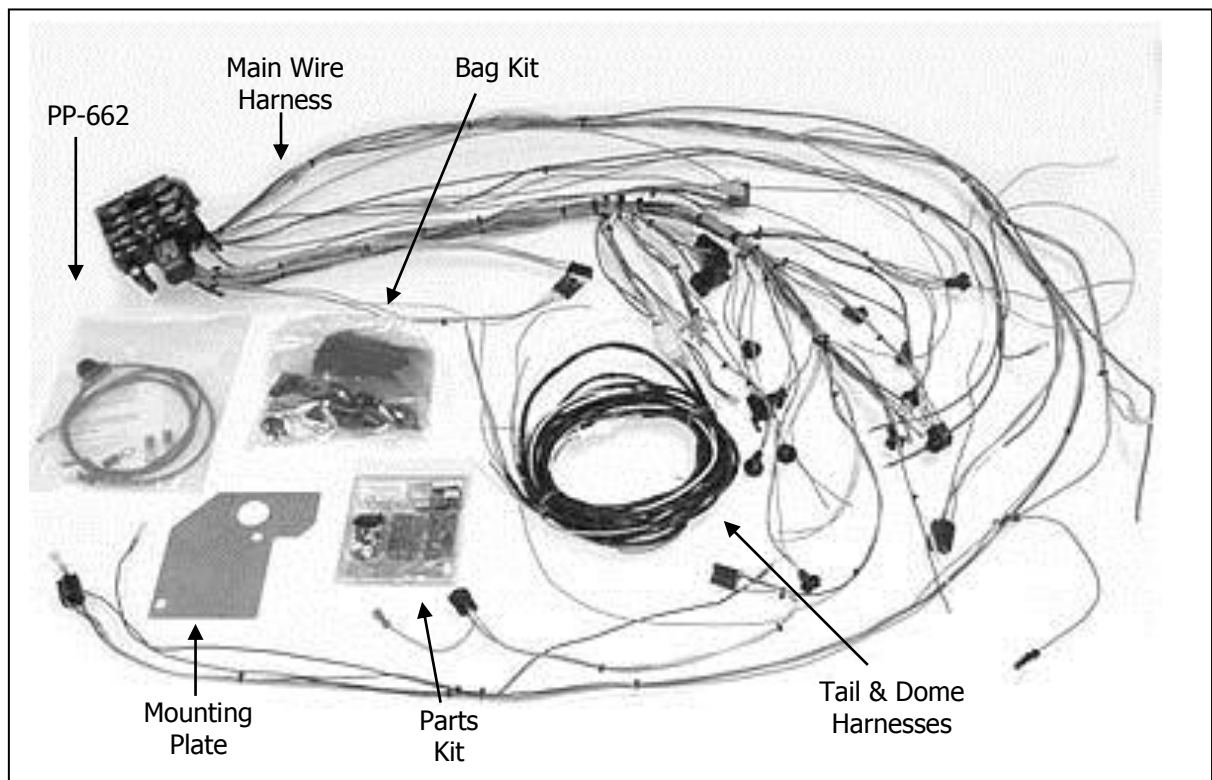

Figure 3.1 The Painless Performance Wire Harness Kit (Part #20110)
Refer to **Figure 3.1** to take inventory. See that you have all the parts you are suppose to have in this kit. If anything is missing, contact the dealer where you obtained the kit or Perfect Performance Products, L.L.C. at (817) 244-6898. This wire harness kit should contain the following items: